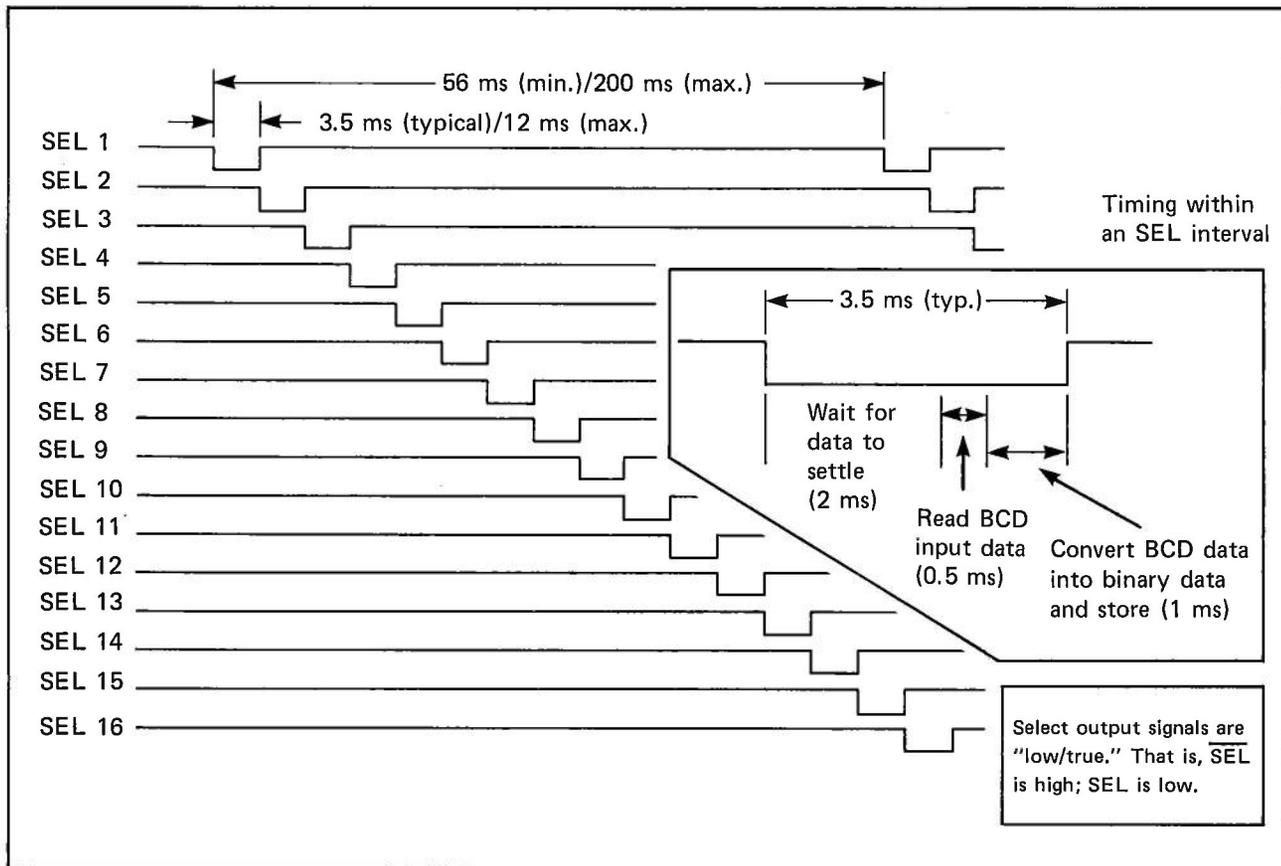

Figure 13 – Module Scan Timing Diagram
9. There is no time delay from the deselection of one field device and the selection of a second device. For example, SEL1 goes high at the same time SEL2 goes low. (A timing diagram is shown in Figure 13.) The Catalog No. NLT-715 Thumbwheel meets this requirement. However, this may be an application consideration if other types of devices are chosen.
Since the data inputs of the Module have a propagation delay of about 1 ms, field device data must be present and stable on the bus within 1 ms after a device SEL line goes low. This data must be maintained on the bus until the line goes high, at which time the field device must immediately disable its output. There is no delay between individual SEL signals. (See Figure 13.)